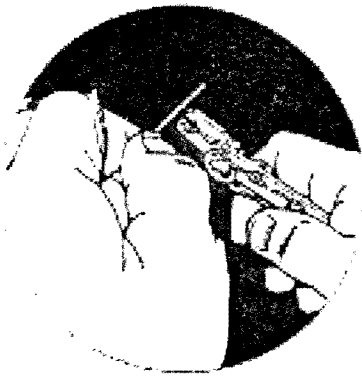

Fig. 1
Step 1. (Fig 1) Insert fiber into the opening of the tool.